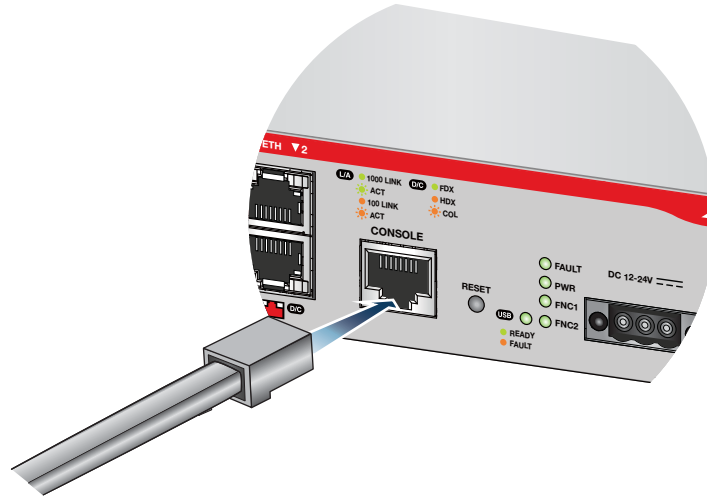

Figure 25. Connecting the Management Cable to the Console Port
1. Connect the RJ-45 connector on the management cable to the Console port on the front panel of the router, as shown in Figure 25.